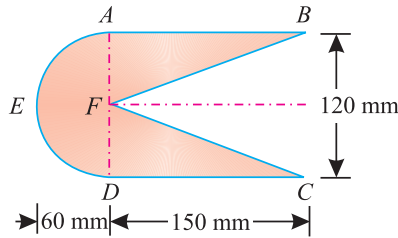

Fig. 6.27
**Example 6.16.** A solid consists of a right circular cylinder and a hemisphere with a cone cut out from the cylinder as shown in Fig. 6.27.